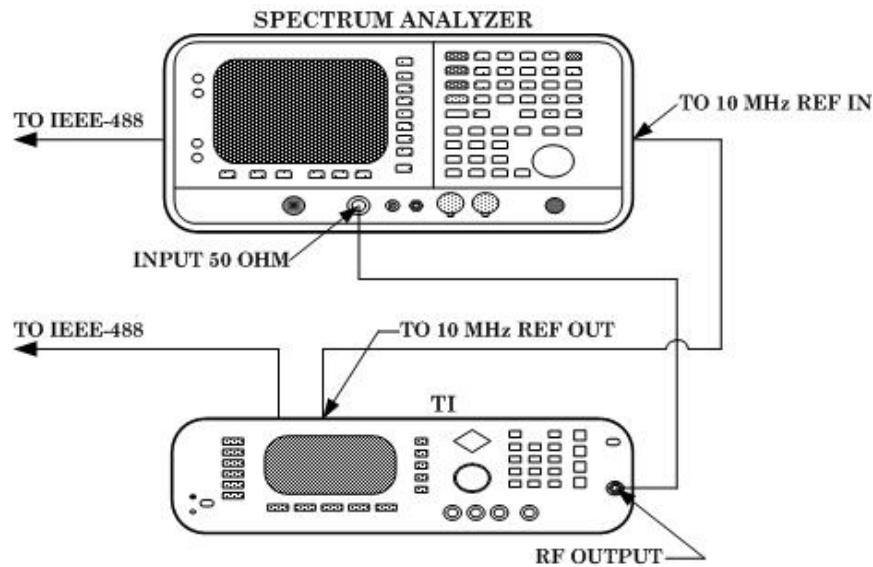

Figure 4. Spectral purity hookup.
(1) Connect equipment as shown in figure 4.